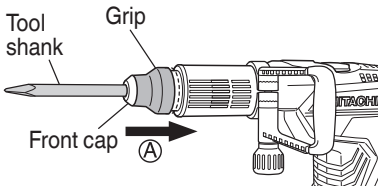

Fig. 5
- (3) Switch the selector lever to “hammering T” and turn the tool, and make sure that it is locked completely.
As shown in Fig. 5, slide the grip in the direction of (A) and pull out the tool.